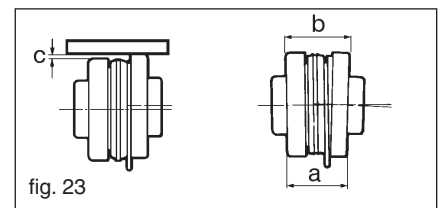

fig. 23
Radial: (fig. 23) with a ruler placed on the outer surface of the half couplings, measure the maximum misalignment (dimension C) in at least four points around the circumference and try to bring it as close as possible to zero (see table)
- **Angular:** (fig. 23) with a gauge, measure at a minimum of four points the distance between the two halves of the coupling and bring the difference (b-a) as close as possible to zero (see table)